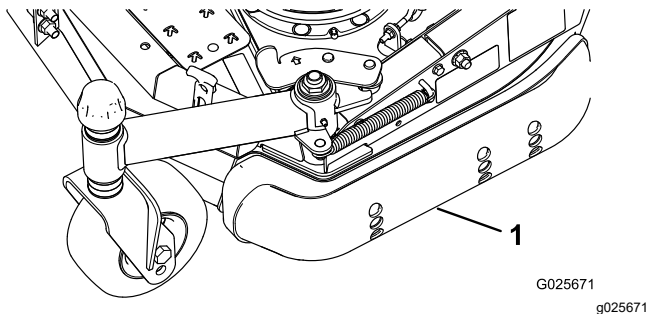

Figure 4
3. Loosen the screw at the front of each skid. (Figure 4).